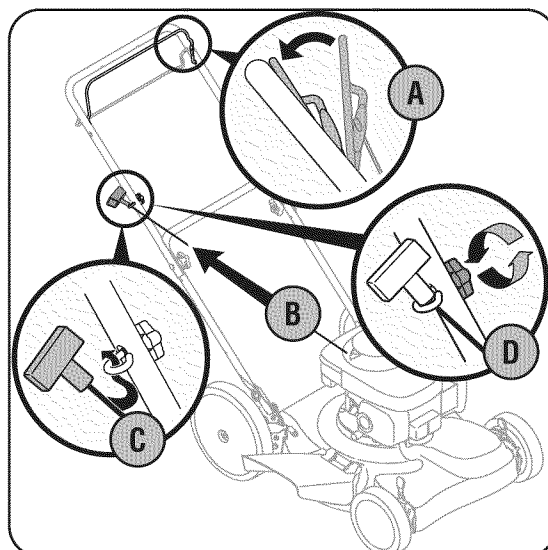

Figure 3-3
- Pull starter rope out of the engine. Release the blade control. See Figure 3-3.